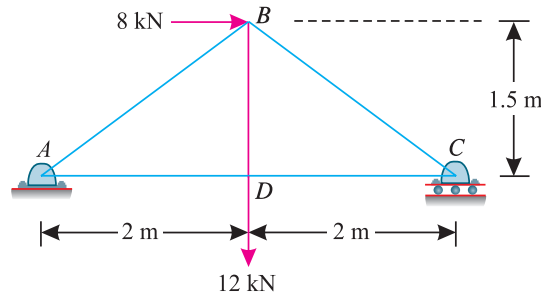

Fig. 14.39.
**Exmample 14.15.** Figure 14.39 shows a framed structure of 4 m span and 1.5 m height subjected to two point loads at B and D.